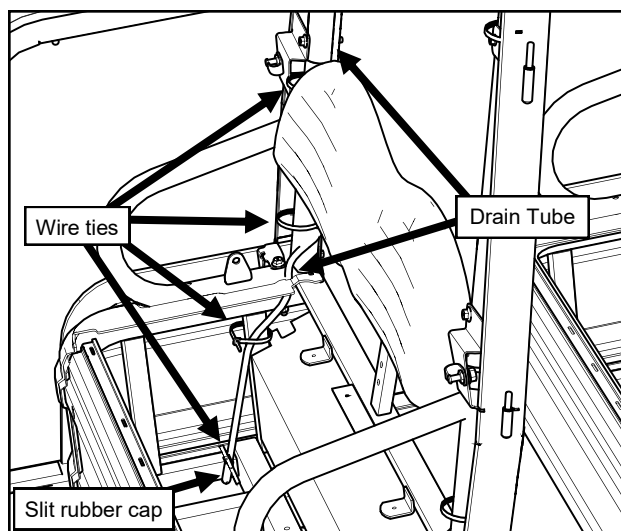

Fig. 6.2 (Drain routing, right side)
- 6.2** Continue the power harness and drain along the ROPS, with the drain tube behind the cross bar for the seat per Figure 6.2. Loosely secure the harness and drain to the ROPS with two wire ties as shown.